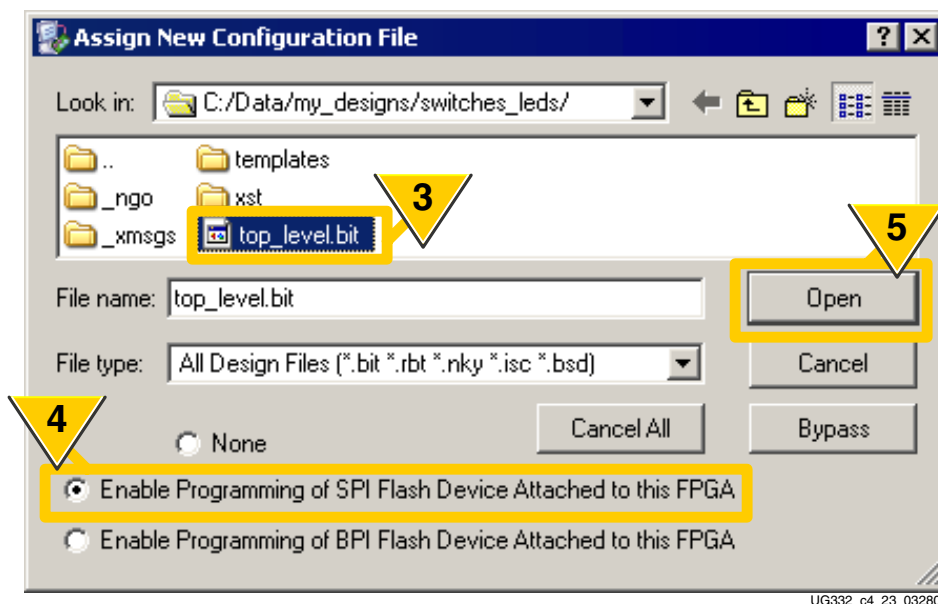

Figure 4-22: Select the FPGA Bitstream File and Enable SPI Programming
3. Select the FPGA bitstream file (\*.bit) to be programmed into the FPGA, as shown in Figure 4-22. This step is superfluous but required for iMPACT 9.1i. This step is eliminated as of iMPACT 9.2i. This file is *not* the special FPGA-based SPI programming application.